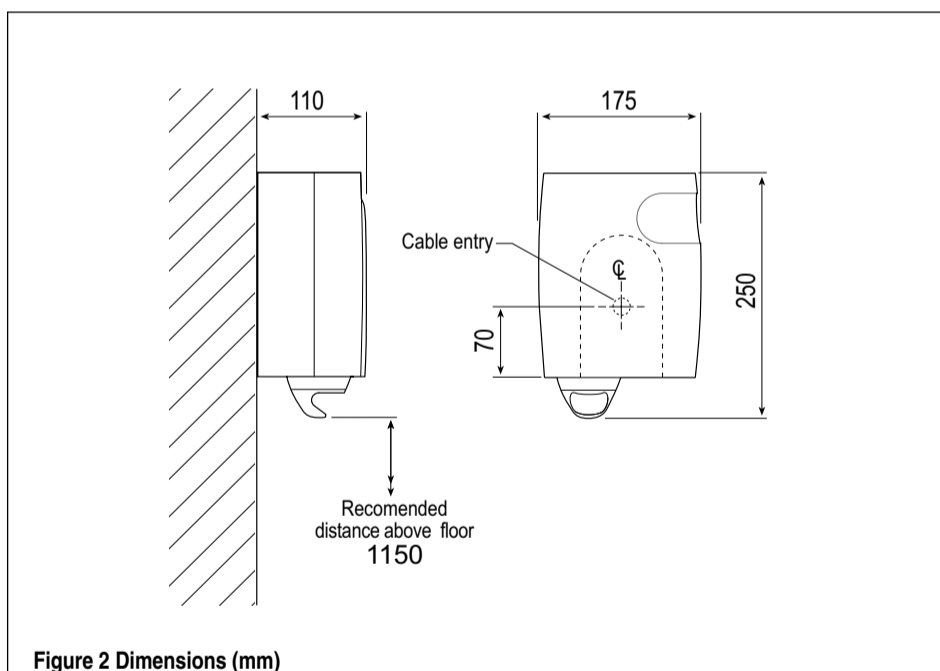

Figure 2 Dimensions (mm)
- 3.7 Only use the designated entry point for electrical cable - see figure 2.
Note that the recommended height of the drier outlet is 1050mm above the floor - see figure 2.